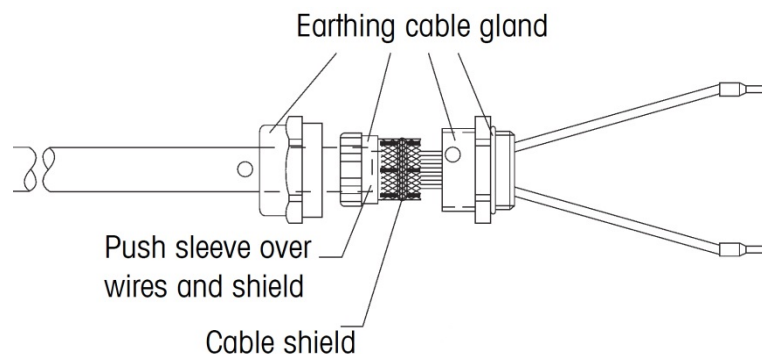

Figure 3-26: Battery Pack Cable Preparation
6. Fold the shield wires over the plastic component of the cable gland (Figure 3-26). Then press this assembly into the threaded metal body of the gland.